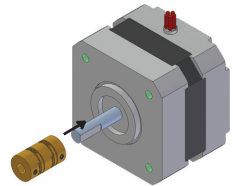

Fig. 2
1. Shafts and coupling bores should be clean and free of all foreign bodies. Fasten coupling to one of the shafts (fig. 2 & 3) ensuring that set screw locates on the flat.